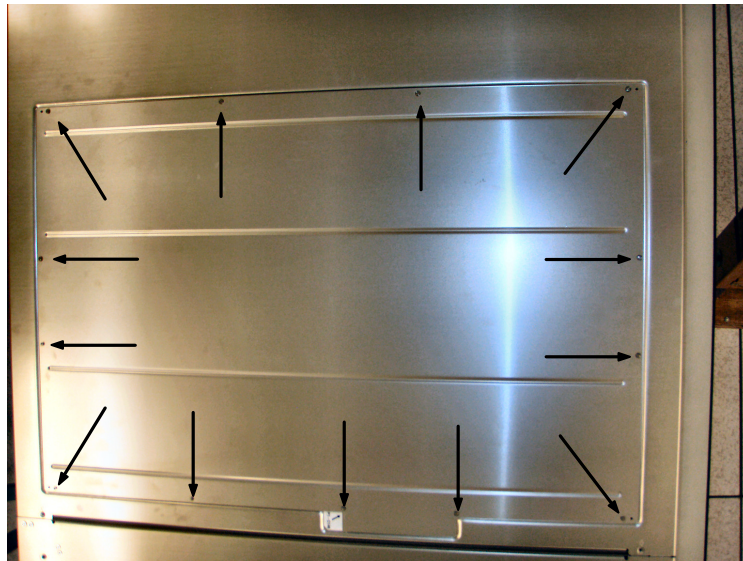

Figure 23 Service Cover Screw Removal
STEP 34 Remove the Service Cover from the top of the CEC by loosening the 13 captive screws as shown in Figure 23. A flat blade screw driver PN 73G5367 is provided in the tool kit.